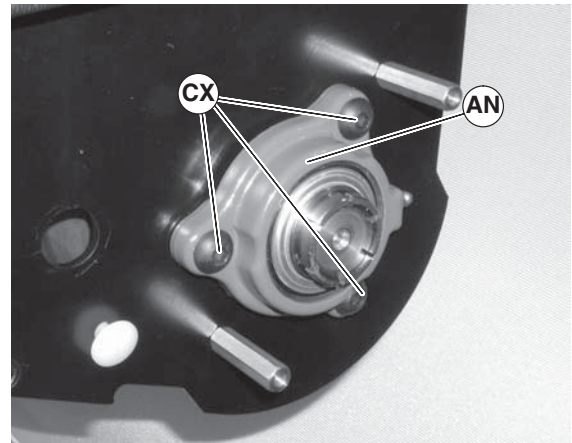

Figure 93
4. Remove the three (3) mounting screws (Figure 93, item CX).
5. Remove and replace housing assembly (Figure 93, item AN).
6. Tighten three (3) mounting screws (Figure 93, item CX) to 200 in-lbs (22.5 N-m).